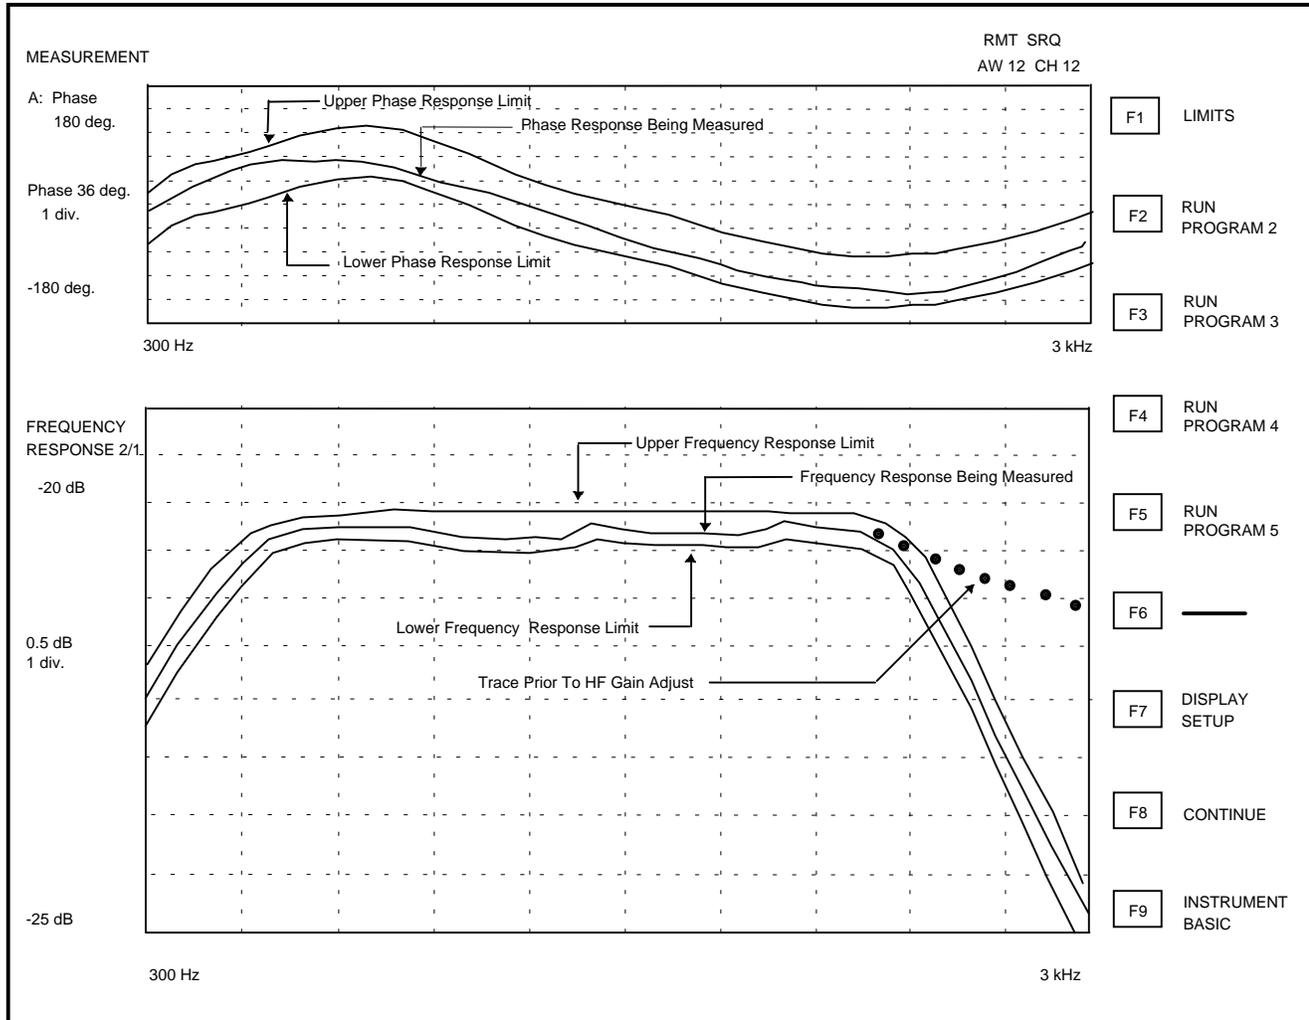

Figure 12. Equalization Alignment Waveforms
A sweep may be restarted at any point by pressing START. Refer to Figure 12. Equalization Alignment Waveforms as needed during this procedure.
Start a sweep and observe the amplitude display (lower display). See Figure 12.
11. Experience has shown improved performance by adjusting the equalizer HF GAIN counter-clockwise 3 to 4 turns to force the 2600 to 3000 Hz trace to "roll off" more than normal. Compare to a trace run prior to adjusting HF AMPL. (Dotted line on Figure 12).